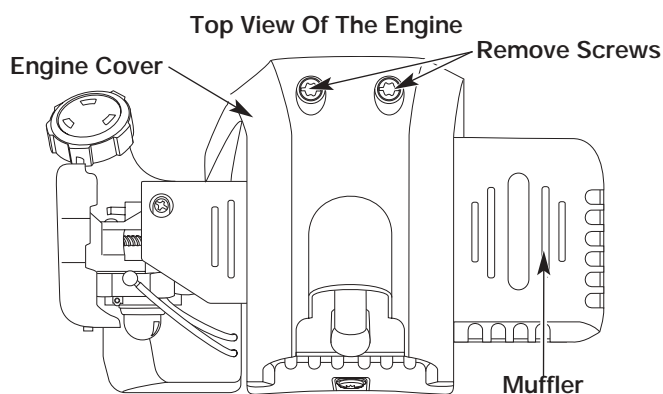

Figure 51
2. Remove the two (2) screws on top of the engine cover with a Flat-head or T-25 Torx screwdriver. See Figure 51.
- Remove the engine cover. See Figure 51.